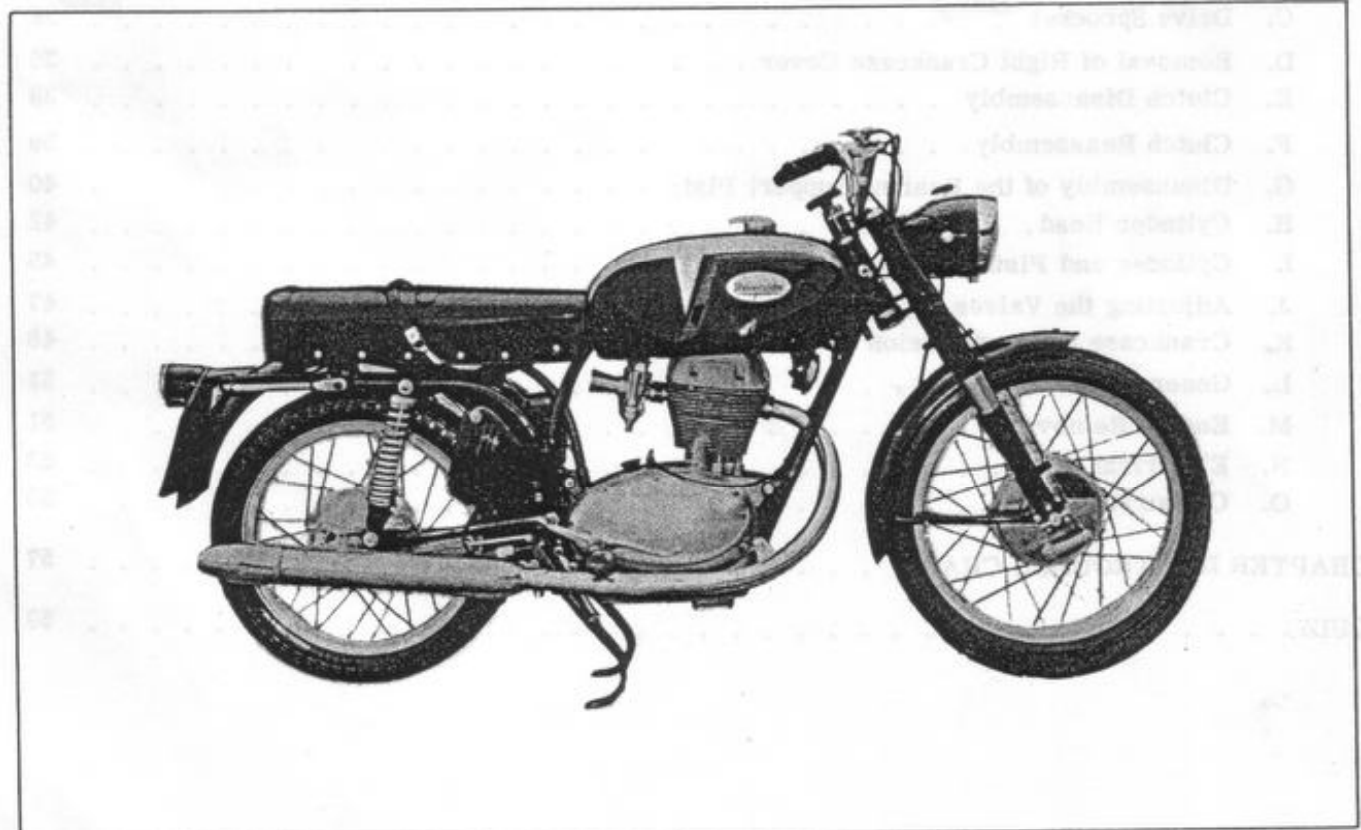

Figure 2. 250 cc. Motorcycle - Model FFA-14017
**NOTE:** Tool kit is placed inside the metal container under the seat (left hand side) — Figs. 2 and 2 A.
fig. 2 and 2 A